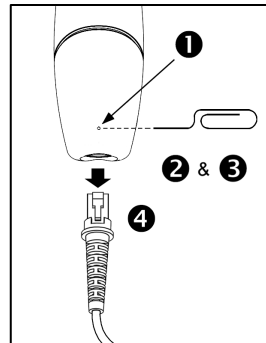

Figure 4.
2. Bend an ordinary paperclip into the shape shown in figure 4.